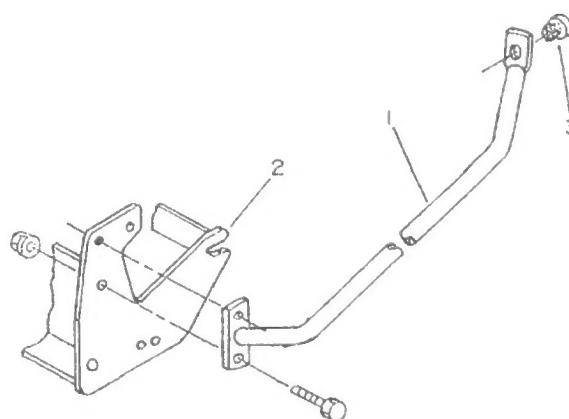

FIGURE 2
- e) Install the handle support (fig.2, item 1) on the front left subframe (item 2) with two 5/16 X 3/4" bolts and nuts. Tighten securely.